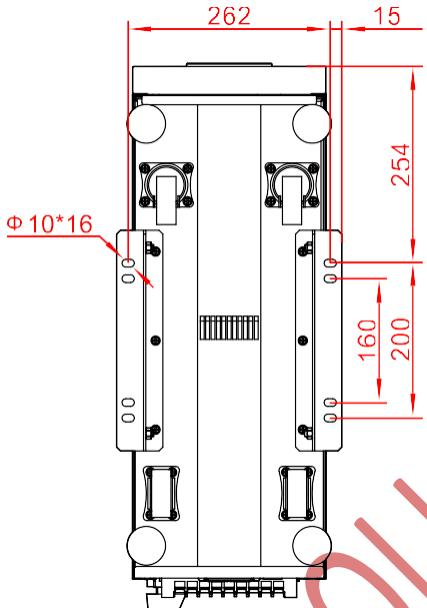
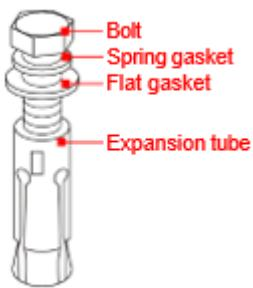

Figure3-5 Installation holes size (unit: mm)
Figure3-6 Expansion bolt structure and installation
Step 2 If there has installation holes in the floor or other bases, fasten UPS in the floor or other bases through anchor, the pedestal installation holes size of each model is as shown in Figure3-5. If the UPS installed on the floor, the structure and installation for the expansion bolt is as shown in Figure3-6.